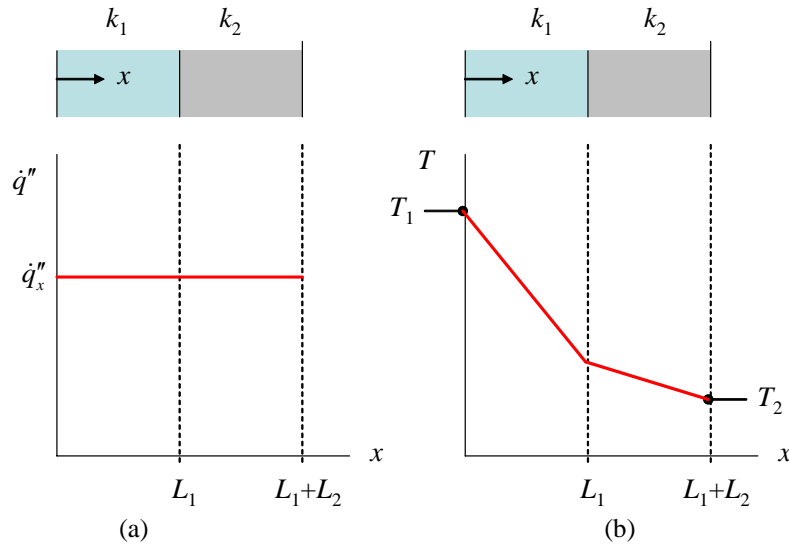

Figure 3: (a) Heat transfer rate and (b) temperature as a function of position within wall.
The numerator of Eq. (3), the heat flux, is constant while the denominator changes depending on whether you are in material 1 or material 2. In the low conductivity material 1, the temperature gradient will be higher than in the high conductivity material 2. Within each material, the temperature gradient must be constant (i.e., the temperature must be linear with x). The solution is shown in Figure 3.